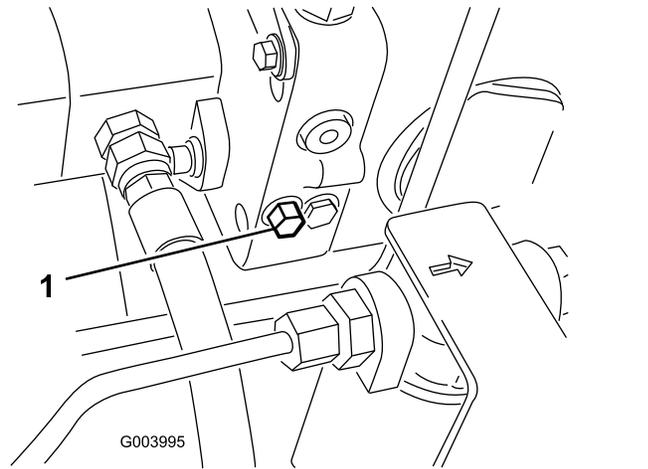

Figure 57
1. The bypass valve is located on the left side of the hydrostat (Figure 57). Rotate the bolt 1-1/2 turns to open and allow fluid to bypass internally.